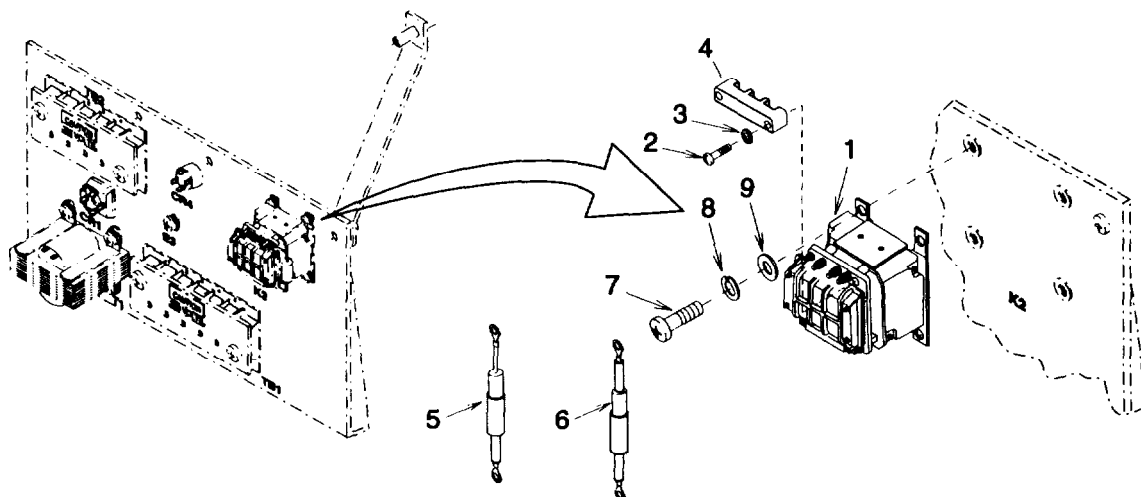

Figure 3-49. Relay (K2), Diode (CR3), and Surge Arrester (SA1)
- (c) Tag and disconnect wire leads and diode (4) from relay (5) terminals.
- (d) Remove four screws (6), lock washers (7), flat washers (8), and relay (5). Discard lock washers.
(2) Relay (K2), Diode (CR3), and Surge Arrestor (SA1) Removal.
- (a) Remove electrical components bracket and disassemble as necessary to access relay (1) Figure 3-49. See paragraph 3-28.
- (b) Remove four screws (2), flat washers (3), and two terminal covers (4).
- (c) Tag and disconnect wire leads, diode (5), and surge arrestor (6) from relay (1) terminals.
- (d) Remove four screws (7), lock washers (8), flat washers (9), and relay (1). Discard lock washers.
- (2) Diodes (CR2) and (CR3) Testing. The following procedures apply to both diodes and should be performed on each one separately.
- (3) Surge Arrester (SA1) Testing. No conclusive test can be performed on the surge arrester (6) Figure 3-49. If it is visibly damaged or suspected to be defective, replace it.
- (c) Install two terminal covers (3), four screws (1), and flat washers (2).
(2) Relay (K2) and Surge Arrestor (SA1) Installation.
- (a) Install relay (1) Figure 3-49, four screws (7), new lock washers (8), and flat washers (9).